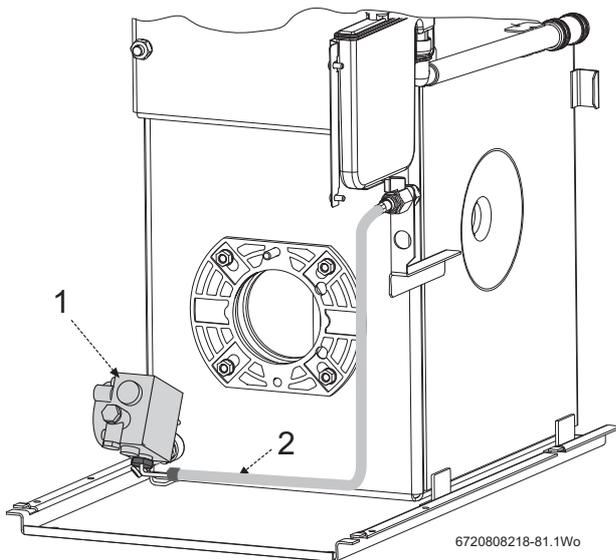

Fig. 95 Oil pump and hose detail
- ▶ Check that the burner is seated correctly on its mounting flange and that the oil hose/s are routed correctly as shown in Fig. 95 and not trapped in front of or underneath the burner.
- ▶ Attach air duct pipe and tighten clip (D) to secure to the burner air intake.